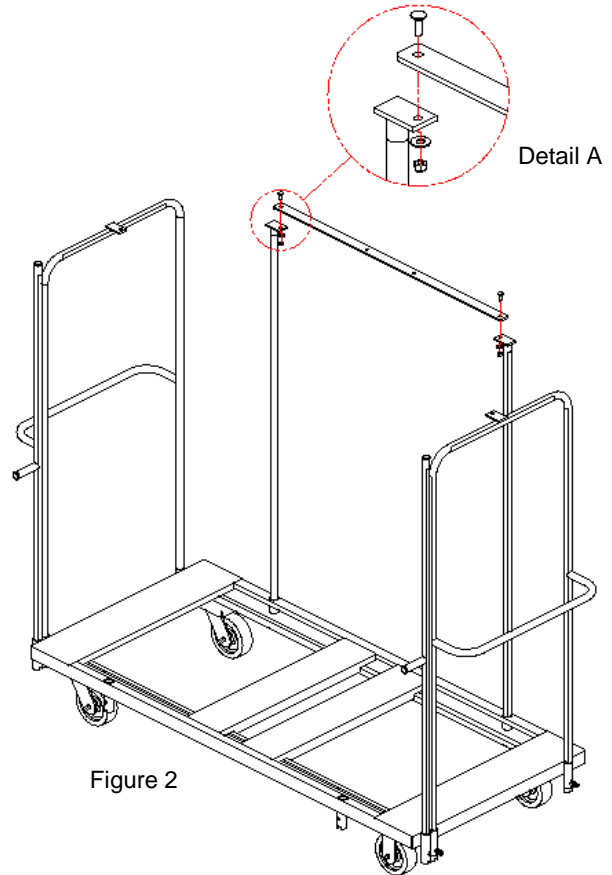

Figure 2
5. Attach the Rear Support Strap to the Rear Supports (See Figure 2, Detail A) using 2 5/16" Carriage Bolts, washers, & nyloc nuts. Bolts must be inserted from the top. Hand tighten.